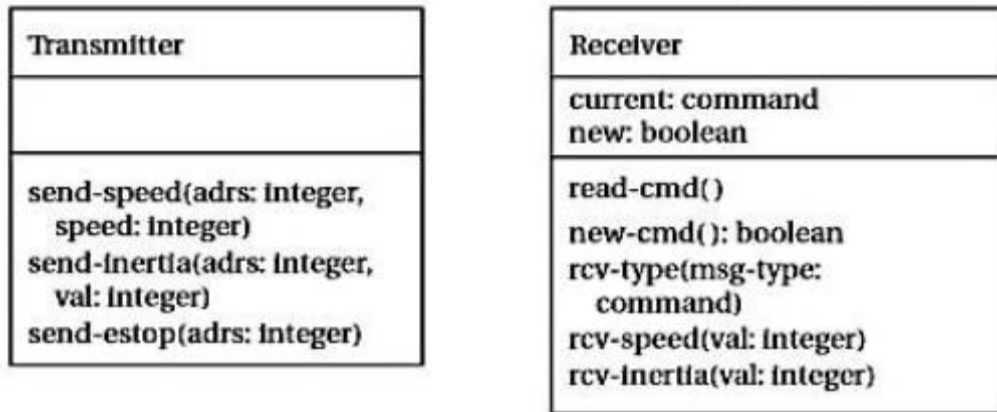

*Fig1.5.5 Class diagram for the Panel and Motor interface.*
- Fig1.5.5 Classes describing analog physical objects in the train control system. Now we will concentrate on each analog component and its functions in a detailed manner with its class diagram.